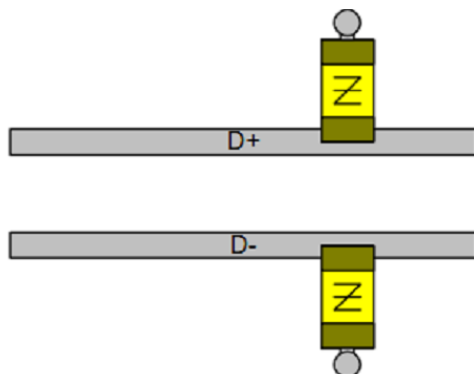
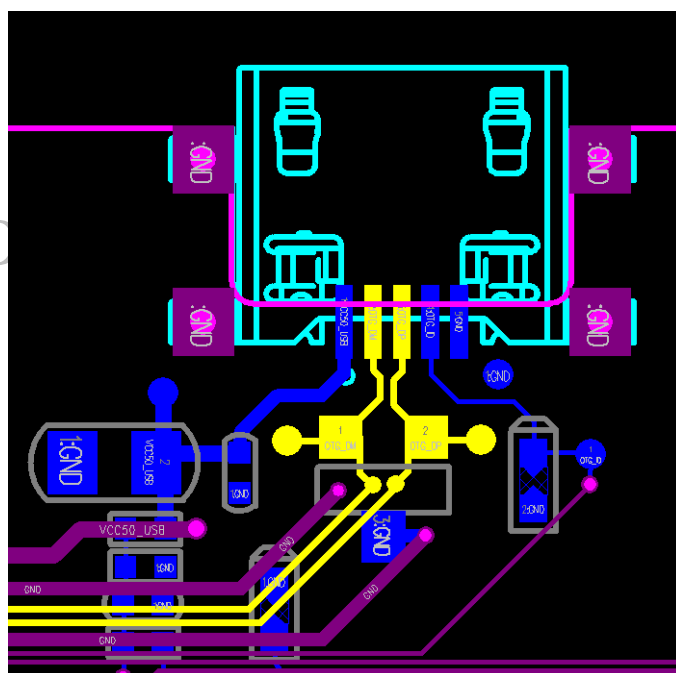

Figure 11-6
Figure 11-7
- ESD protection device, common mode choke and large capacitance should be placed close to USB interface as much as possible, shown as Figure 11-6, Figure 11-7.